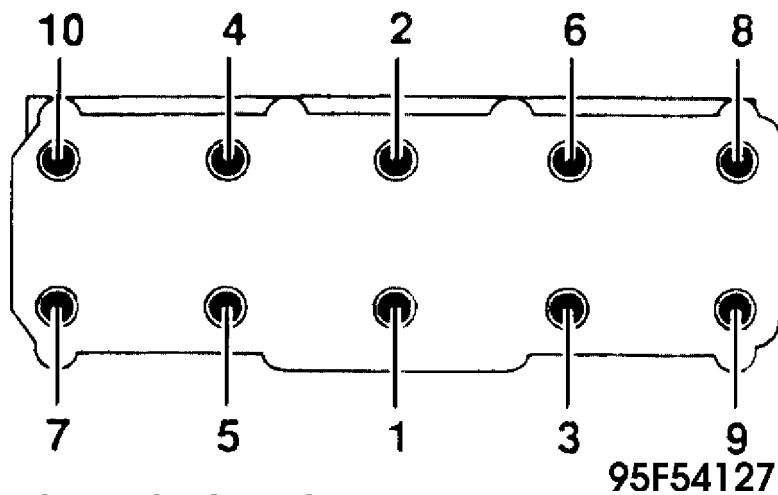

Fig. 6: Cylinder Head Bolt Tightening Sequence
- Tighten cylinder head in sequence shown in Fig. 6, following same sequence for each of for stages.